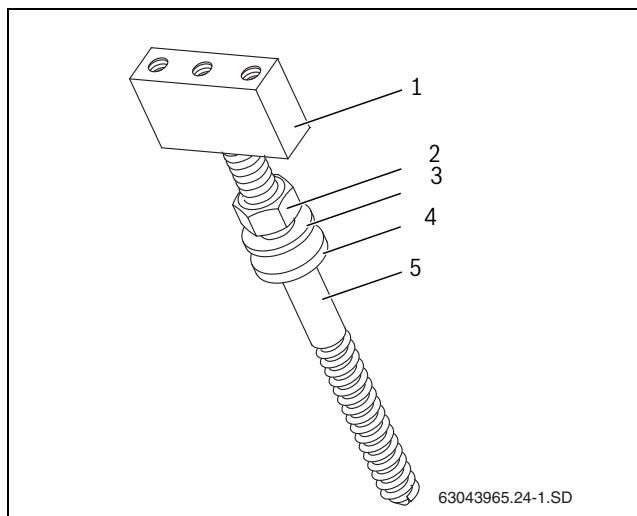

Fig. 22 Fitting the double ended screws - sequence
- When fitting the double ended screws, pay attention to the sequence of the individual parts (Fig. 22).
- Turn support block (Fig. 22, [1]) as far as it will go onto the double ended screw (Fig. 22, [5]).